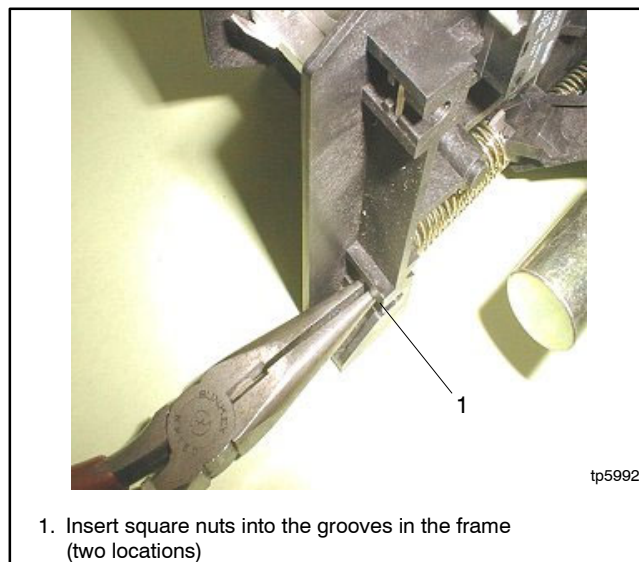

Figure 7-14 Reinstalling the Coil Assembly Nuts
1. Insert the two square nuts into the grooves on the frame. See Figure 7-14.